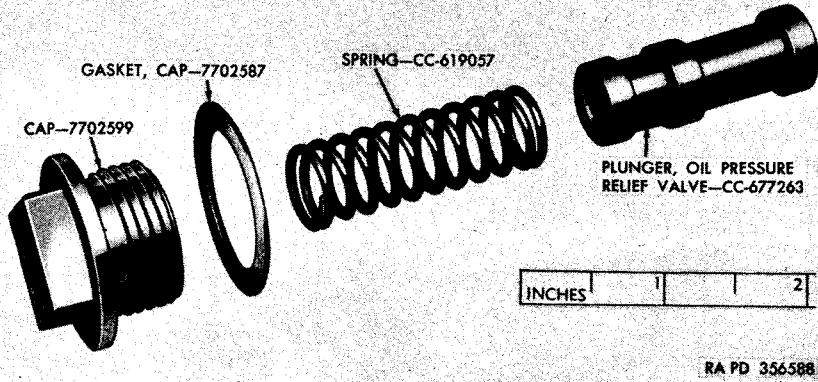

Figure 95. Oil pressure relief valve—exploded view.
q. Install Oil Pressure Relief Valve (fig. 95). Before installing the oil pressure relief valve, apply compressed air to the oil pressure relief valve opening to remove any dirt or foreign matter. The valve must be assembled with the small shoulder or solid end toward the seat and the large shoulder or drilled end toward the spring. Wash the oil pressure relief valve plunger, spring, and cap in engine oil, and install in that order with a new cap gasket under the cap.